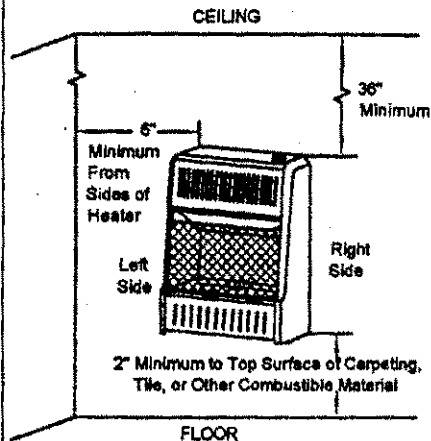

Figure 4-Mounting clearances As Viewed From Front of Heater
**⚠ WARNING:** Maintain the minimum clearances shown in Figure 4. If you can, provide greater clearances from floor, ceiling, and joining wall.